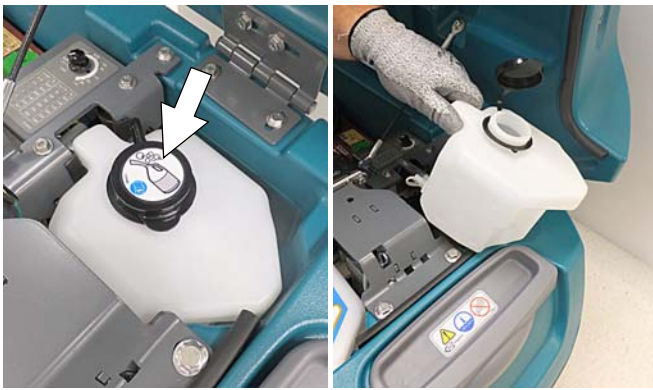

FIG. 148
3. Pour 1 gallon / 4 liters of propylene glycol based recreational vehicle (RV) antifreeze into the solution tank.
Models equipped with optional Severe Environment detergent tank - Lift tank from machine and empty the detergent from tank (Figure 148). Return tank. Pour a 1/4 gallon / 1 liter of propylene glycol based recreational vehicle (RV) antifreeze into the detergent tank.